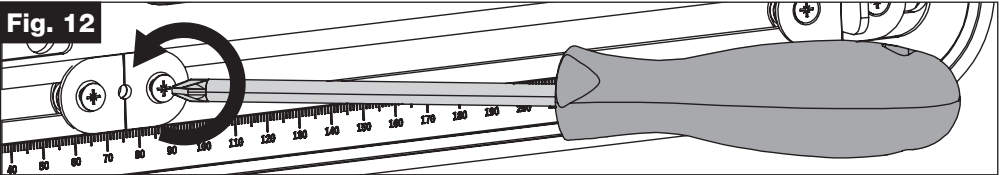

Fig. 13a
- Loosely attach a handle to the Drill Guides using suitable handle screws (Fig. 13a).